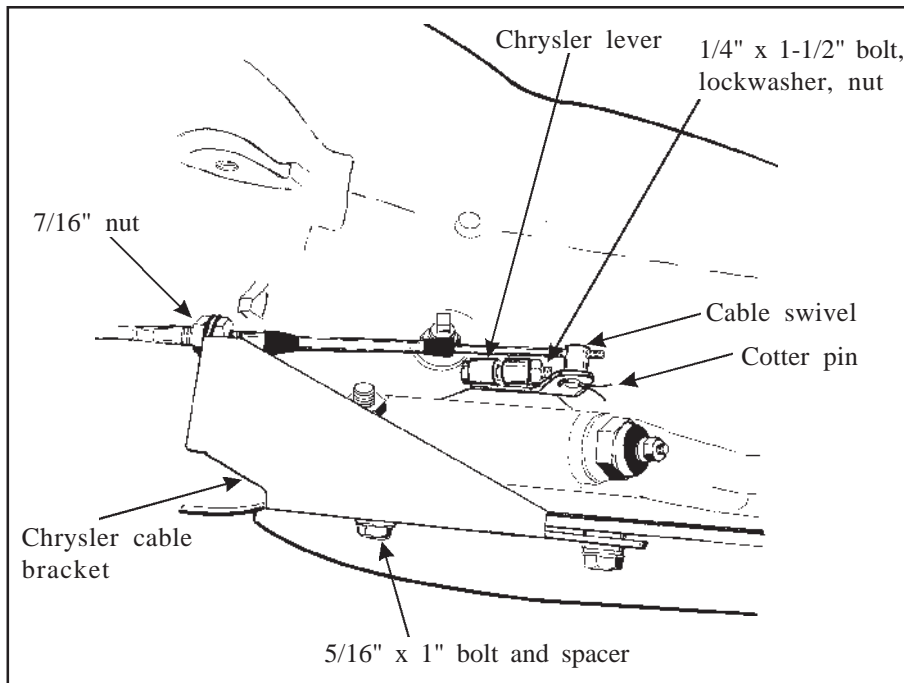

Figure 7
STEP 19. If you have not already done so, loosen pinch bolt on throttle lever on transmission. This is the lever on the small diameter shaft. Pry the lever off with a screwdriver and allow linkage to hang free. Remove and discard stock shift lever and stock shift linkage. Install B&M selector lever in position and tighten pinch bolt securely, see **figure 7**. Make sure lever is not pushed down so far as to touch the transmission case. This will cause the lever to bind on the case. The lever should travel smoothly from front to back with a positive click in each gear position. Install stock throttle lever in position on small diameter shaft as removed and tighten pinch bolt securely. Throttle lever must operate smoothly.
STEP 20. Remove the two transmission oil pan bolts directly below the shift lever. Install cable bracket in position, see **figure 7**, with two spacers between the pan and bracket. (If your transmission is equipped with a cast aluminum oil pan these spacers can be omitted.) Install the two 5/16-18 x 1.00" pan bolts supplied and tighten to 12-13ft-lb. Do not overtighten as this can damage pan gasket.